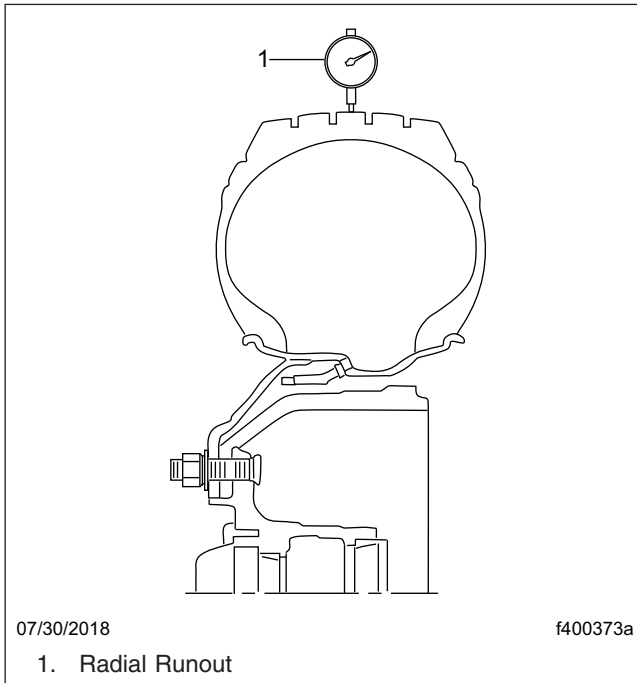

Fig. 2, Radial Runout Check for Tires
4. Beginning with the right-front wheel, use a tire runout gauge to check the radial runout. See Fig. 2. Write down the measurement for later use to avoid vibration complaints.